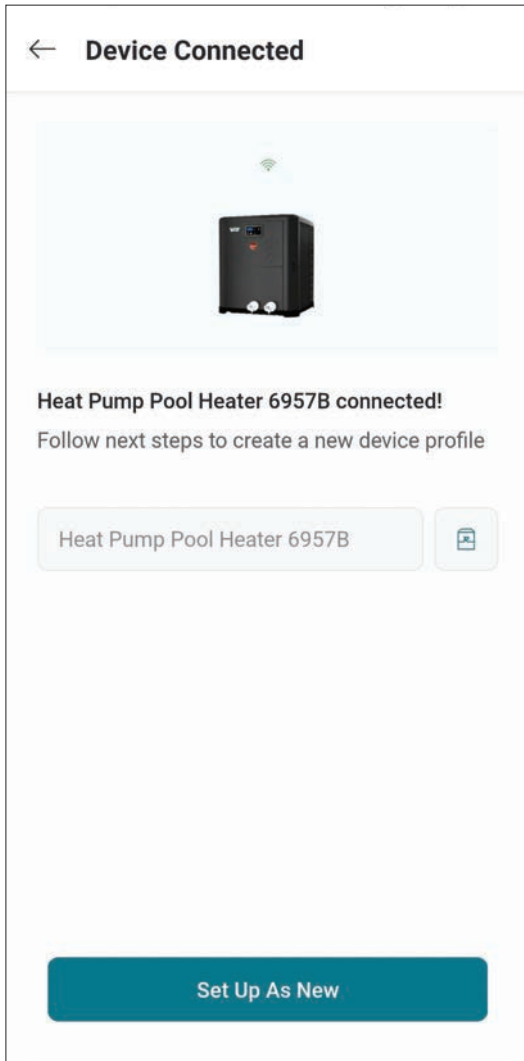

Figure 79. Name Your Unit
1. Your device is now connected to Wi-Fi. You can change the name of your device here. See Figure 79.